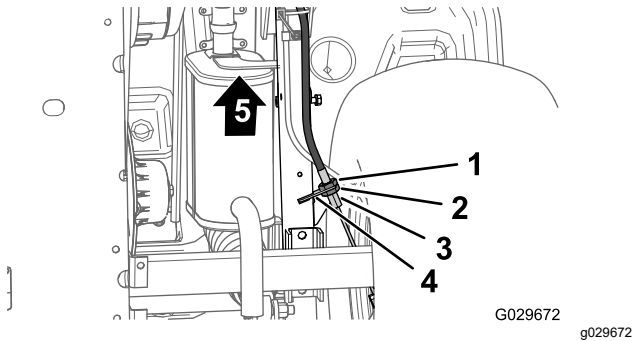

Figure 64
3. At the bottom of the machine, loosen the rear jam nut for the threaded adjuster of the parking-brake cable 4 turns (Figure 64).
- A. Loosen the rear jam nut (Figure 64) for the threaded adjuster of the parking-brake cable 1 turn.
- B. Tighten the forward jam nut (Figure 64).
4. Tighten the forward jam nut (Figure 64).
- A. Loosen the forward jam nut (Figure 64) for the threaded adjuster of the parking-brake cable 1 turn.
- B. Tighten the rear jam nut (Figure 64).